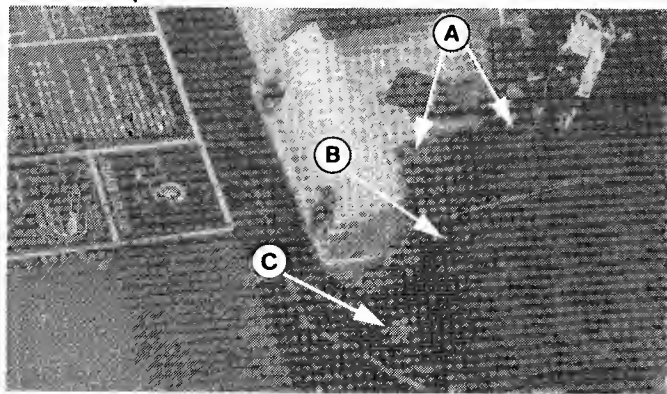

Figure 19. Chain Adjustment
If there is too much slack in the chain, it can be adjusted. Remove the cover (B, figure 19) by removing two screws (A). Loosen the capscrew and nut which hold the spacer in slot. Move the spacer toward the chain to tighten then tighten the capscrew and nut. Do not adjust chain so it is tight; only remove excess slack.